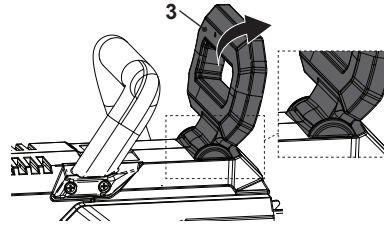

Fig. 17: Engage the chain brake
Engage the chain brake: When the chain brake lever (3) is in the engaged position, the saw chain is stopped as soon as the chain brake is activated (Fig. 17).